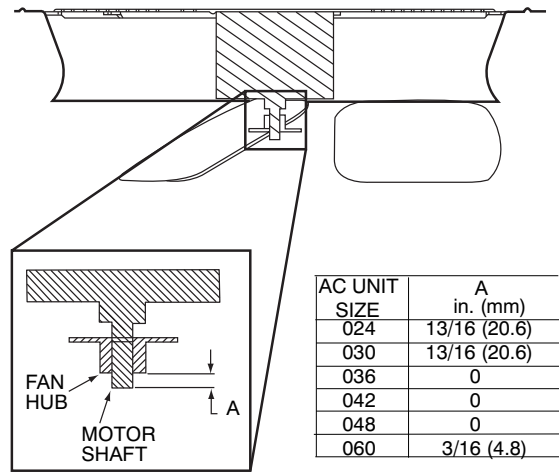

Fig. 20 – Outdoor Fan Adjustment
5. When replacing fan blade, position blade as shown in Fig. 20. Tighten setscrews.